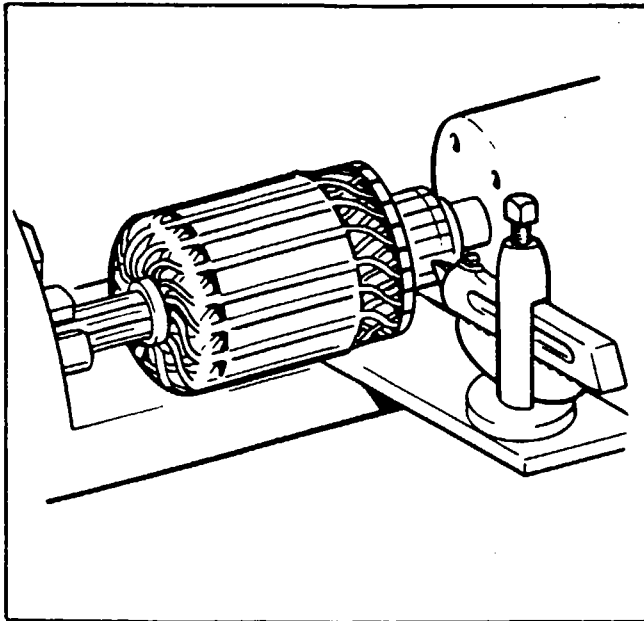

Figure 11-16. Turning Motor Commutator
a. Check the commutator for uneven wear, excessive glazing, or evidence of excessive arcing. If only slightly dirty, glazed or discolored, the commutator can be cleaned with 00 or 000 sandpaper. If the commutator is rough or worn, it should be turned in a lathe. (Refer to Figure 11-16.) The armature shaft should be inspected for rough bearing surfaces and rough or damaged splines.